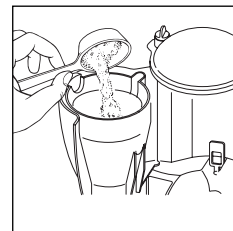

fig. 9
- Place the ground coffee in the filter, using the measuring spoon supplied, and level evenly (Fig. 9). As a general rule, use a level measuring spoon of ground coffee (around 7 grams) for each cup (for example, 12 spoons to make 12 cups). The quantity of ground coffee will vary according to personal taste. Use good quality, medium ground coffee, packaged for filter coffee makers.